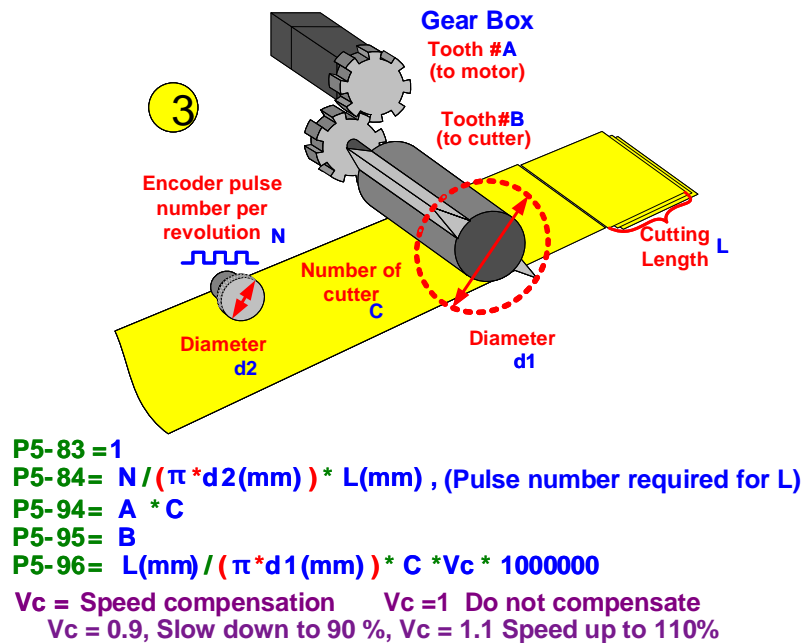

Figure 2.49 Mechanical Settings when Using Macro 6
Step 3: See Figure 2.49. Figure out the mechanical specifications and enter relevant parameters, which is the same as the data required when creating E-Cam curve for rotary shears. Users may use HMI to input the required data and use HMI or PLC to calculate relevant values and download them to the servo drive.